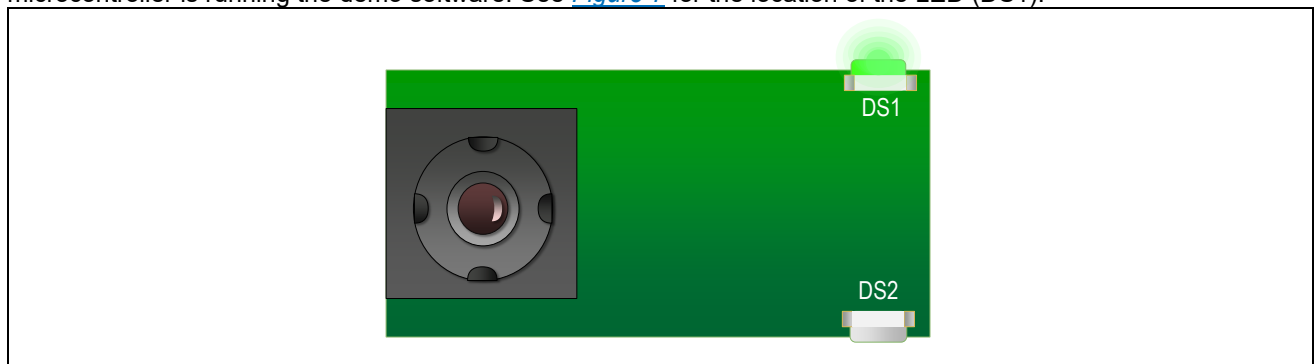

Figure 7. MAX78000CAM02 LED Location
- When power is applied to the board, the green LED (DS1) begins to blink. This LED indicates the MAX78000 microcontroller is running the demo software. See Figure 7 for the location of the LED (DS1).